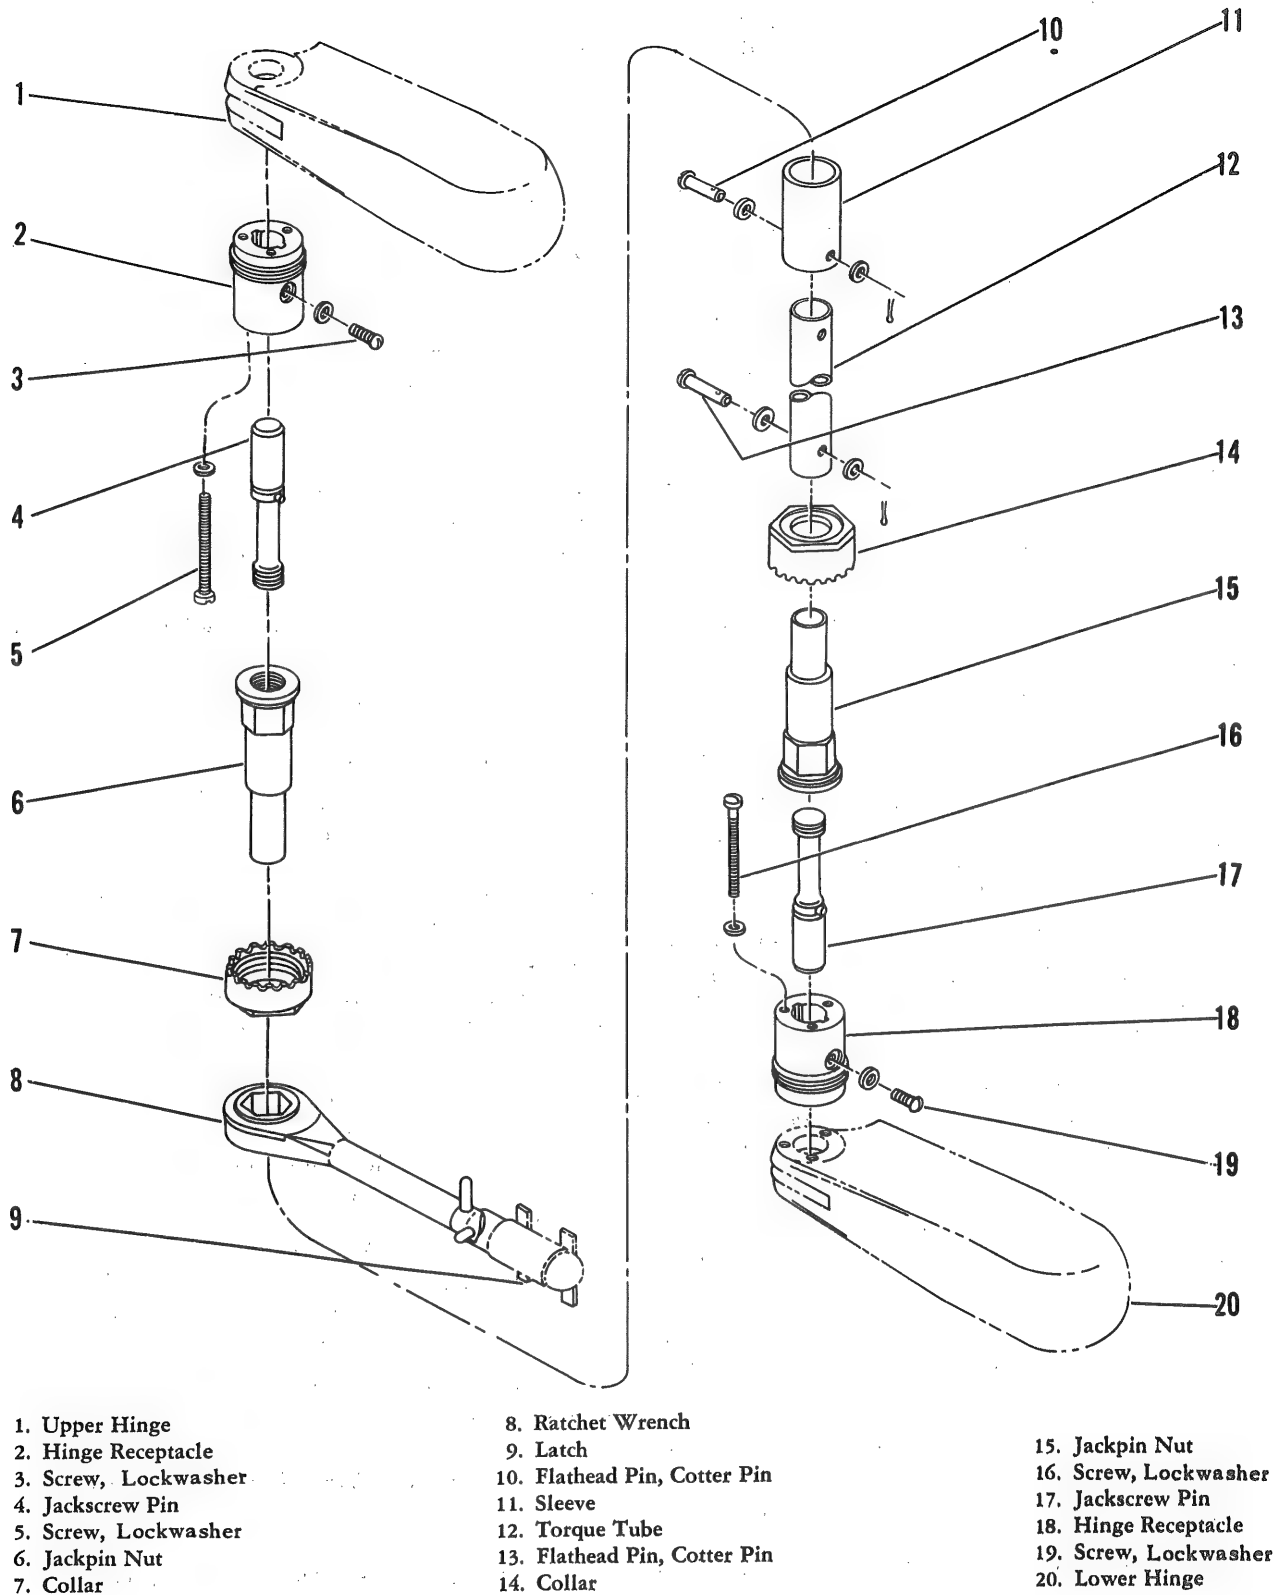

Figure 2-3. Pylon Folding Hinge Lock Disassembled
- b. Actuate ratchet wrench (8, figure 2-3) to lock jackscrew pins (4 and 17) tightly in locked position.
- c. Remove flathead pins and cotter pins (10 and 13) which secure jackpin nuts (6 and 15) and sleeve (11) to torque tube (12).
- e. Slide torque tube (12), sleeve (11), ratchet wrench (8), and collar (7) down from upper hinge (1). Unscrew and remove jackpin nuts (6 and 15) from jackscrew pins (4 and 17).
- f. Remove hinge lock parts from position between upper hinge (1) and lower hinge (20). Work upper and lower jackscrew pins out of hinge receptacles (2 and 18) and hinges.
2-21. INSTALLATION. (See figure 2-3.)